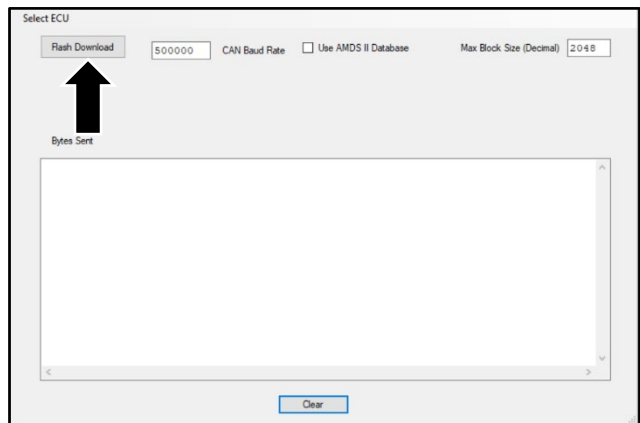

Figure 9
13. Select "Flash Download" (refer to Figure 9).